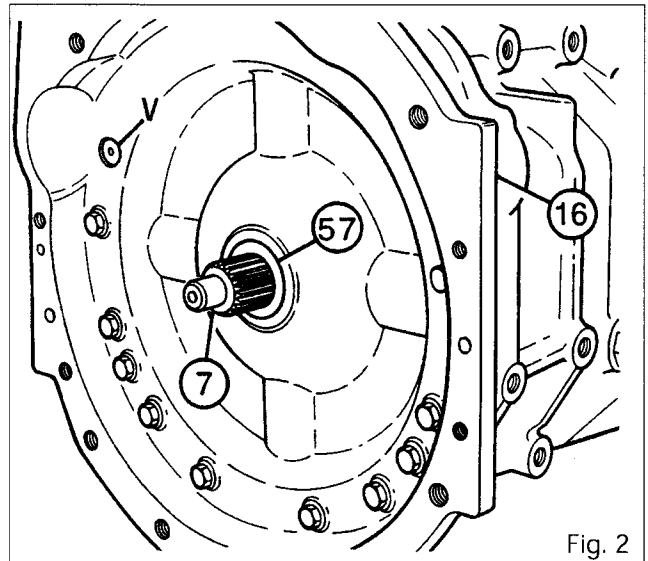

Fig. 2
Note : The countersunk head of bolt "V" must be correctly positioned (Fig. 2).
B. Removing and refitting the seal (Fig. 2)